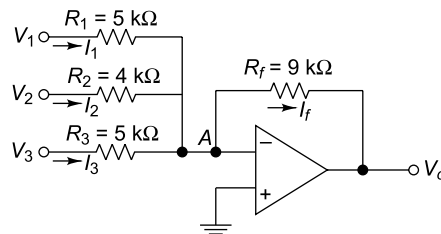

Fig. 5.14 Circuit of Ex. 5.9
5.9 An operational amplifier circuit is shown in Fig. 5.14. Determine the output voltage V_o and current flows through R_1 , R_2 , R_3 and R_f . Assume $V_1 = 2 \text{ V}$, $V_2 = -2$ and $V_3 = 3 \text{ V}$